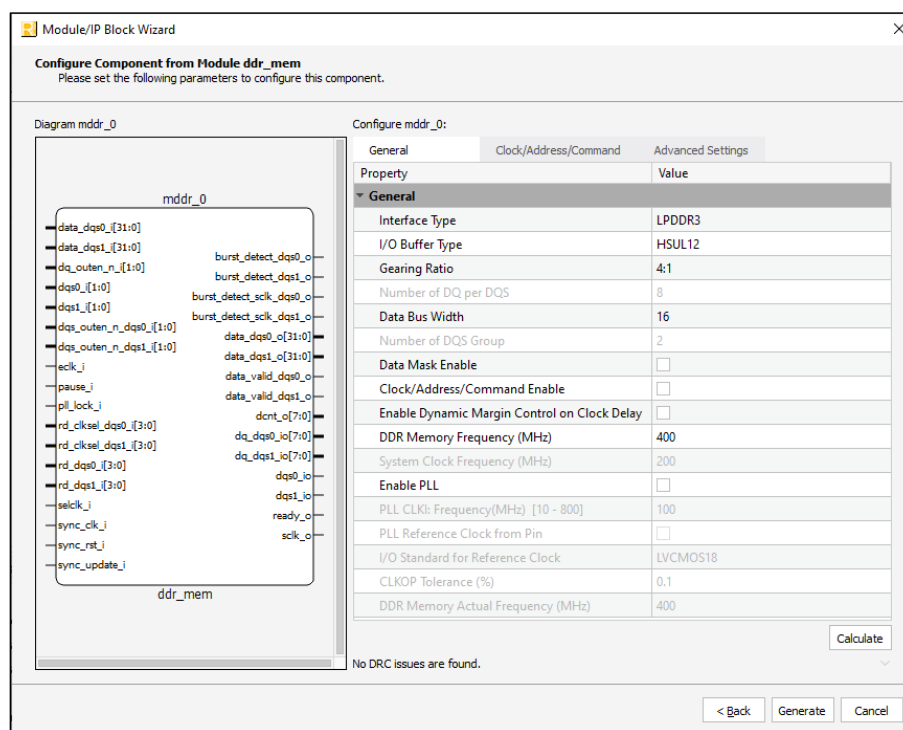
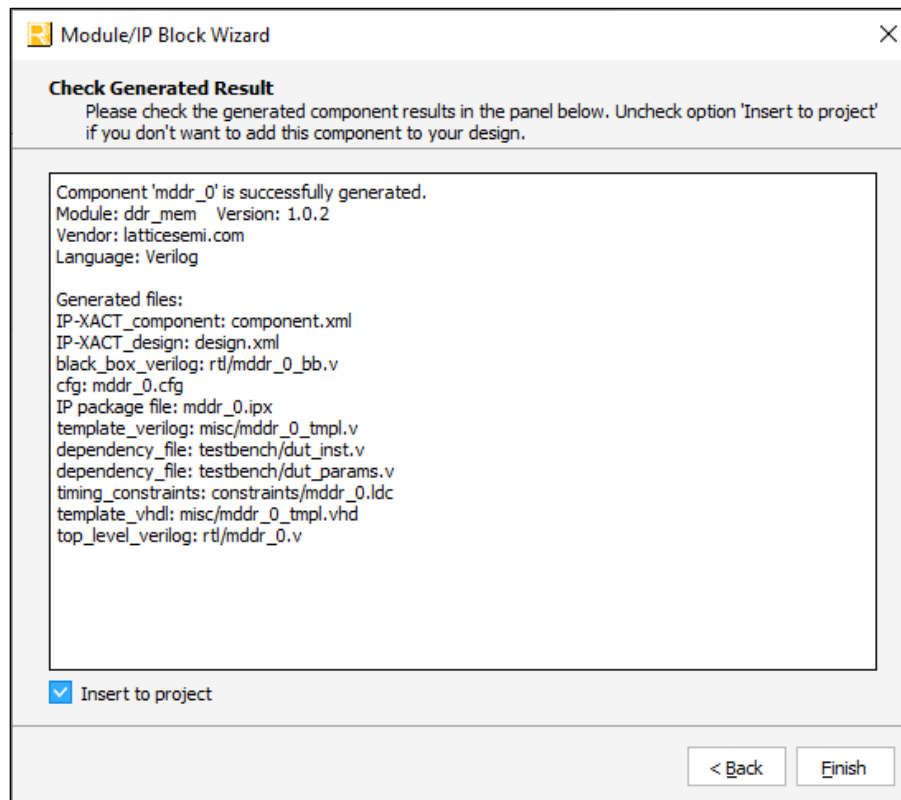

Figure 3.1. Configure Block of DDR Memory Module
Figure 3.2. Check Generating Result
2. In the dialog box of the Module/IP Block Wizard window, configure the DDR Memory module according to custom specifications using drop-down menus and check boxes. Refer to Figure 3.1 for a sample configuration and Table 2.4 for configuration options.
- Click **Generate**. The Check Generating Result dialog box opens, displaying design block messages and results as shown in Figure 3.2.
Generating and Synthesizing the IP	Updated Figure 3.1 and Figure 3.2.